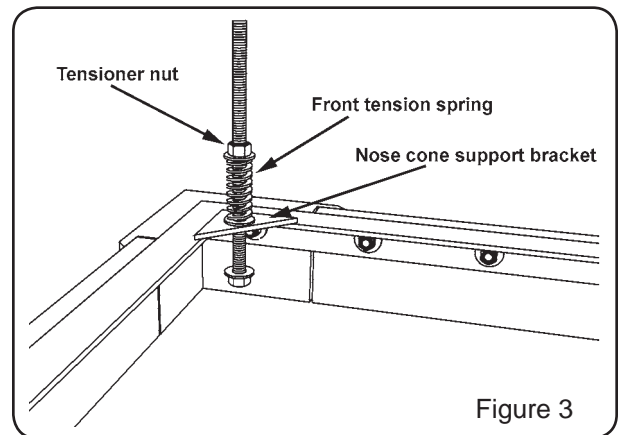
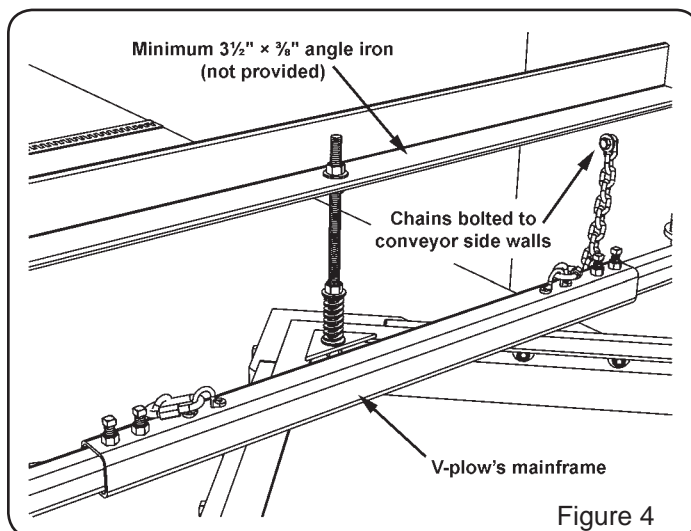

Figure 3
Figure 4
**To install the nose cone support** (only supplied on systems 36" and larger): Start by loosening the tensioner nut just above the spring located on the front of the V-plow. Back it off by 4" or more (see figure 3). Next, weld a  $3\frac{1}{2}" \times 3\frac{1}{2}" \times \frac{3}{8}"$  thick piece of angle iron (not provided) parallel to the V-plow's mainframe across the chord members of your conveyor, approximately 11" above the belt's surface and directly above the hole in the nose cone support bracket (see figure 4). Now drill a  $\frac{3}{4}"$  diameter hole through the top of the angle iron directly above the hole located in the V-plow's nose cone support bracket. Finally, remove the top nut and washer from the threaded rod and push the rod up through the hole in the angle iron. You will need to adjust both upper nuts on the rod until the lower welded nut is flush with the bottom of the nose cone support bracket.
**To install the safety chains:** Weld or bolt the chain ends to the conveyor side walls approximately 6 to 8 inches in front of, and 2 to 4 inches above the V-plow's mainframe (see figure 4). When properly installed, you should have approximately 3" of slack in each chain. **NOTE:** *Under no circumstances should the chains ever be installed as to be touching the belt in any fashion.*